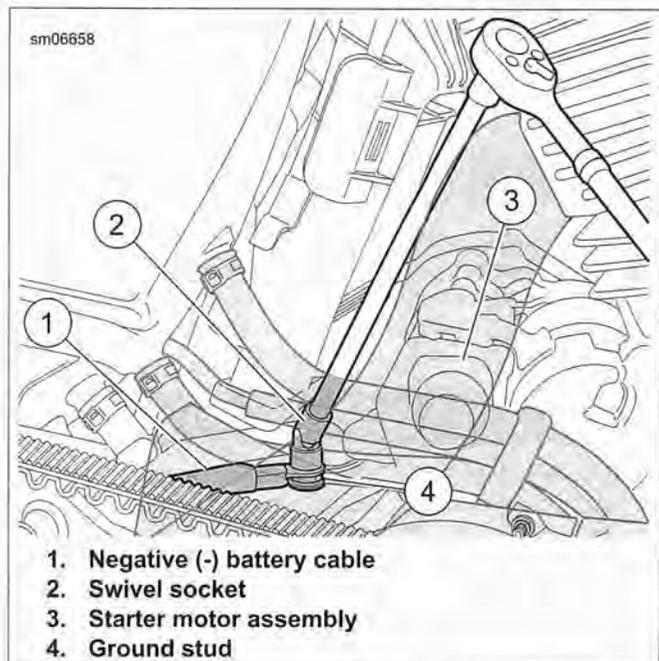

Figure 1-60. Negative (-) Battery Connection
2. See Figure 1-60. Using a swivel socket (2), remove nut that secures the negative (-) battery cable (1) connector to ground stud (4) on crankcase boss behind starter motor assembly (3). Remove cable connector from stud.
13. See Figure 1-60. Place negative (-) battery cable connector onto ground stud (4) on crankcase boss behind starter motor assembly (3). Thread nut onto stud.